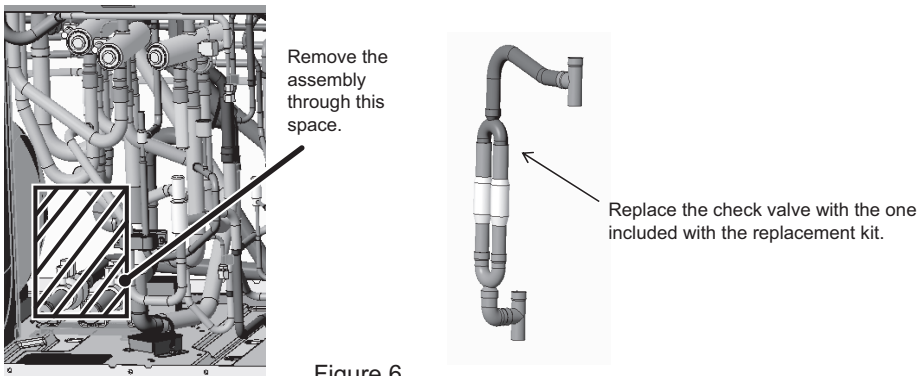

Figure 6
(5) Remove the check valve assemblies (CV2a/b) through the space circled in Figure 6.